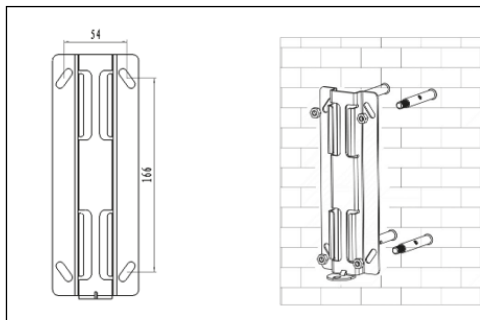
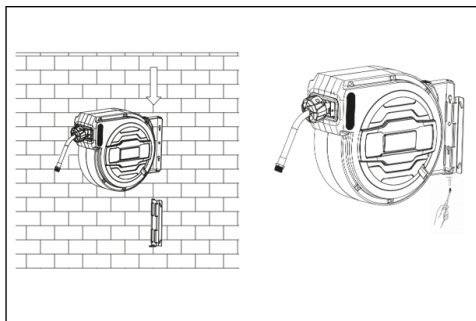

Fig. 1 - (29662/29669)
Fig. 4
5. Installation (Fig.1 – Fig.4)